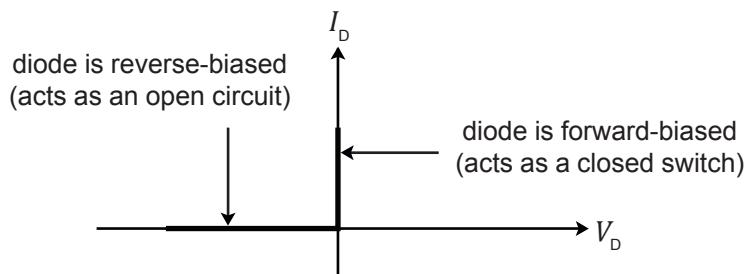
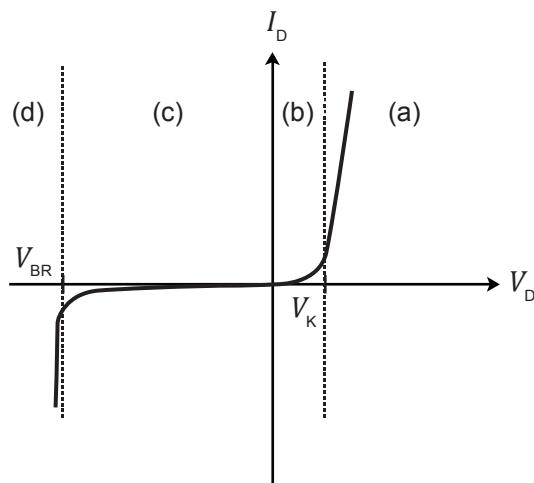
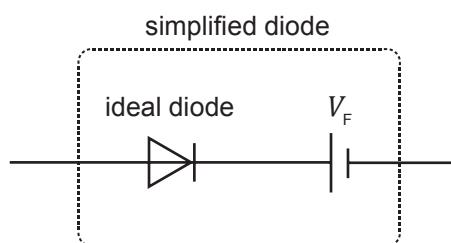
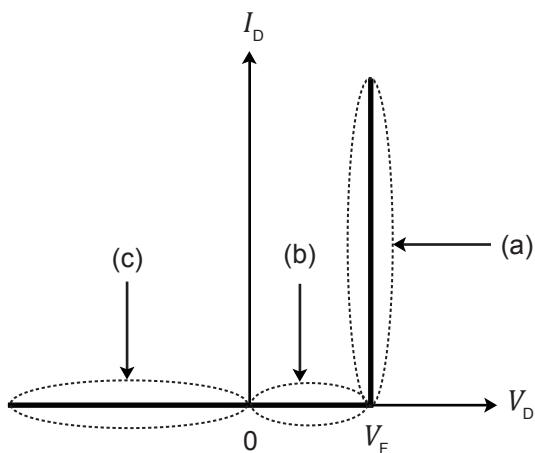

Figure 7.13 Characteristic graph of an ideal diode
Figure 7.14 Characteristic graph of a practical diode (not drawn to scale)
Figure 7.18 Simplified diode model
Figure 7.19 Characteristic graph of the simplified diode model
The most important characteristic graph of a diode is its current-voltage (I - V) graph. The I - V graph of an ideal diode is shown in Figure 7.13.
Since ideal diodes do not exist, we normally use commercially available **practical diodes** such as silicon diodes or germanium diodes. Figure 7.14 shows the characteristic graph of a practical diode.
The practical diode characteristic graph shown in Figure 7.14 is the most accurate representation of the behaviour of a PN junction diode. However, it is not easy to use in analysing circuits. In addition, many analyses do not need such a high level of accuracy. For quick analyses, we often use the **simplified diode model** (technically called the offset or constant-voltage-drop model) shown in Figure 7.18.
Figure 7.19 shows the characteristic graph of the simplified diode model.
Figure 7.19 is meant to be a simplified version of the characteristic graph of a practical diode (Figure 7.14). In Figure 7.14, the positive upward swing of the graph starts at the knee voltage, V_K . Hence, in Figure 7.19, the value of V_F is taken to be V_K of the diode.
1. State two differences between the characteristics of an ideal diode (Figure 7.13) and the simplified diode model (Figure 7.19).